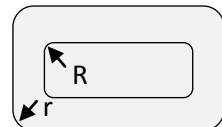

Fig. 3
Relationship of Inside Corner Radius (R) to Metal Thickness (*Fig. 3*)
Relationship of Outside Corner Radius (r) to Metal Thickness (*Fig. 3*)